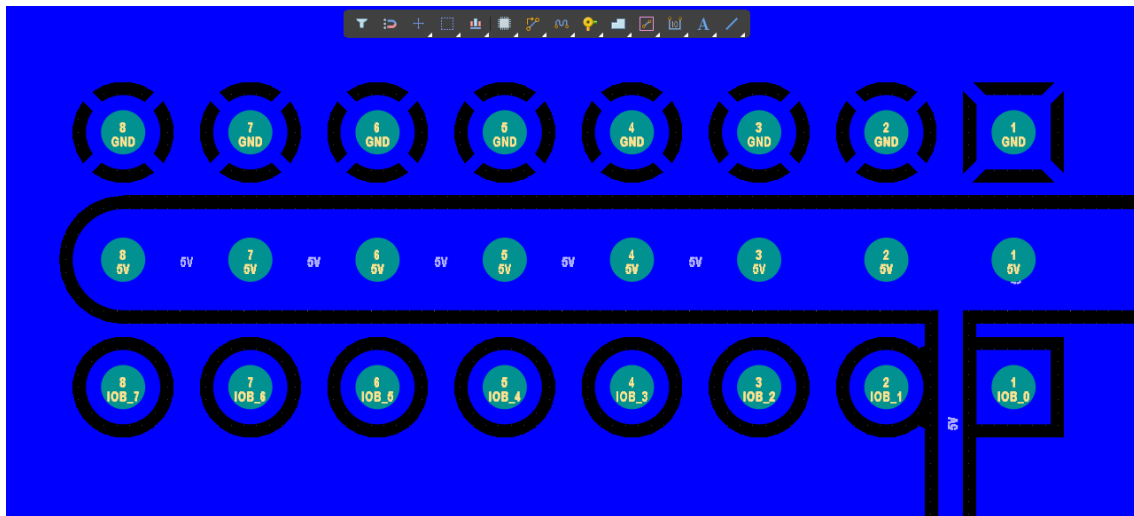

Figure 20. Repoured polygon
59. Go to **Tools » Polygon Pours » Repour All**. Note that the pads are now connected to the polygon as specified in the Design Rules, Figure 20.